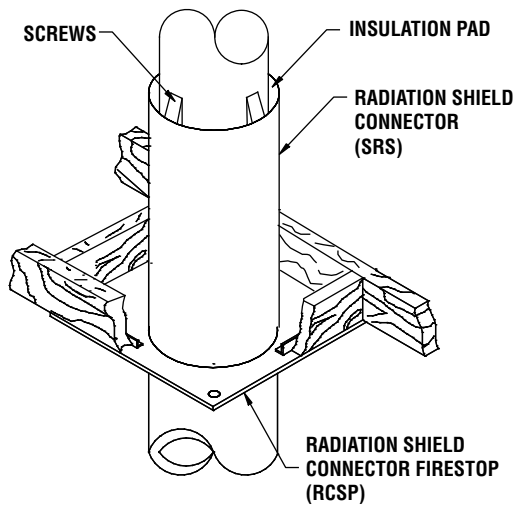

Figure 23
- At the ceiling level, install a Radiation Shield Connector (SRS) and a Radiation Shield Firestop (RCSP) (figure 23).